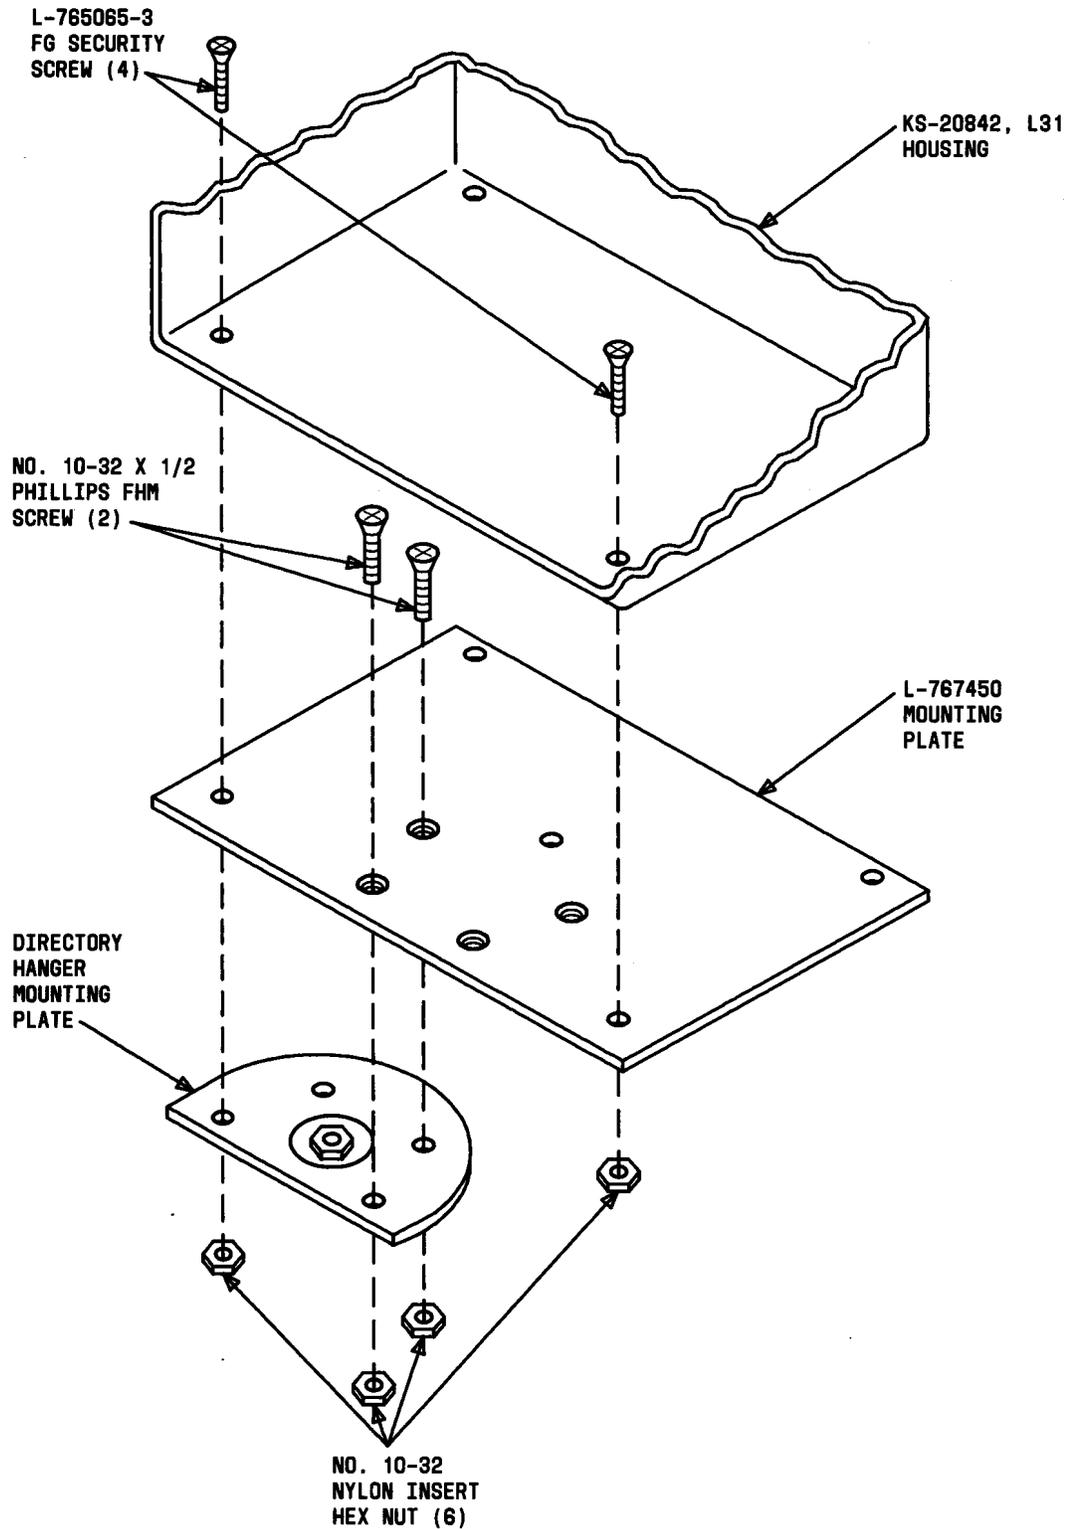

Fig. 25—Installing a KS-20030, List 10 Directory Hanger to a KS-20842, List 31 Housing
3.22 Install a KS-20030, List 10 directory hanger on a KS-20842, List 31 housing per Fig. 25.